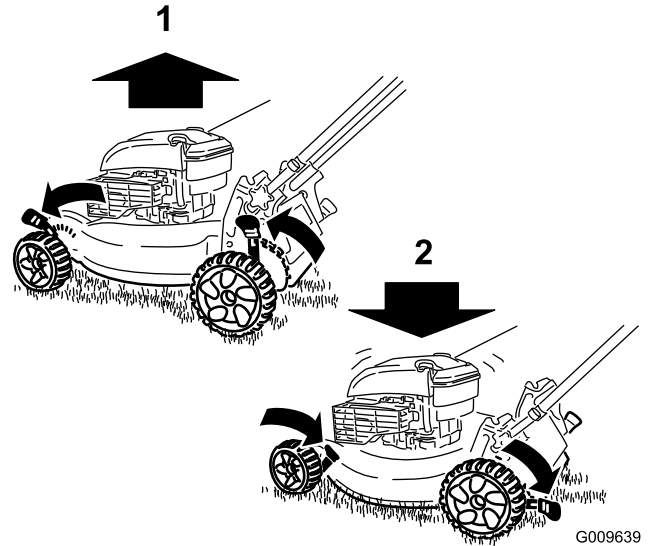

Figure 8
**Note:** To raise the mower, move all the cutting height levers forward; to lower the mower, move all the cutting height levers rearward (Figure 8).